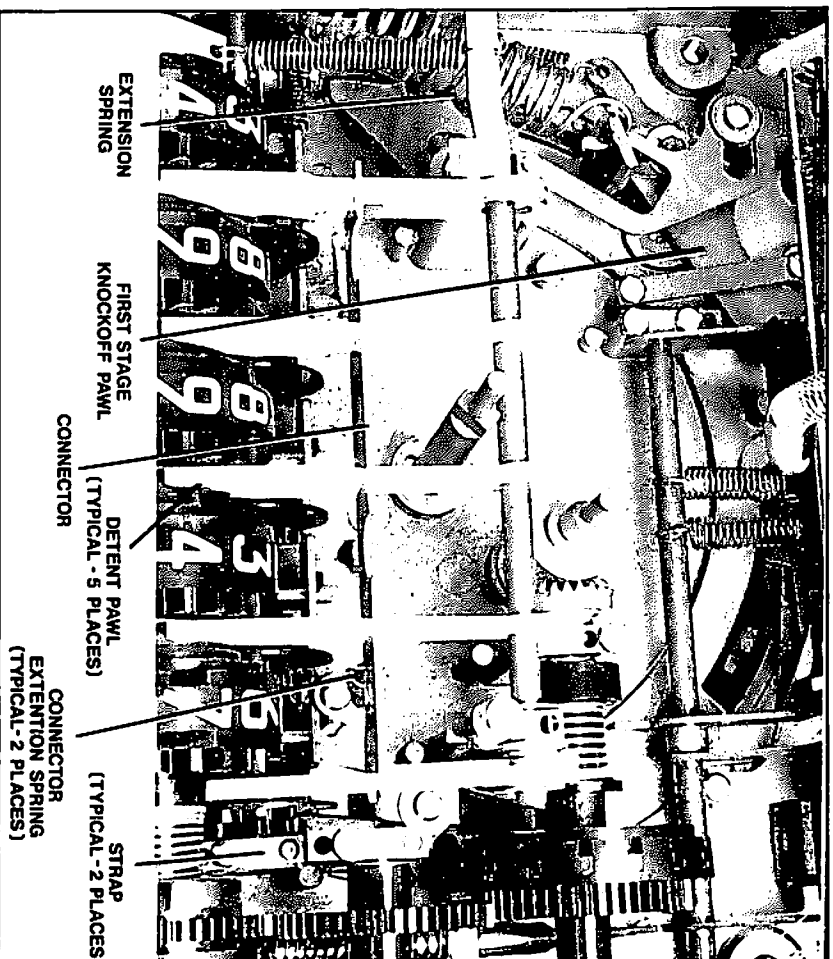

Figure 10. Meter Preset Parts Identification (Wheels Installed).
**F. TROUBLESHOOTING.** Refer to Figures 10, 11, and 13 for parts identification when using Troubleshooting Table 1.
2. Remove two connector extension springs (Figure 10).
3. Remove extension spring from between strap securing left side of pinion shaft and shift bar (Figure 10).
4. Swing connector and detent pawls (Figure 10) away from wheel shaft group to rear of Preset.
5. Remove large extension spring from between strap that secure left side of wheel shaft and tab on knockoff plate (Figure 10).
6. Remove pan head retaining screws and two straps securing wheel shaft group (Figure 10).
6. Install two straps and the pan head screw that secure the wheel shaft (Figure 10).
8. Swing detent pawls and connector down toward front of Preset (Figure 10).
9. Install extension spring between strap securing left side of pinion shaft and shift bar (Figure 10).
10. Install two connector extension springs between connector and base of Preset (Figure 10).